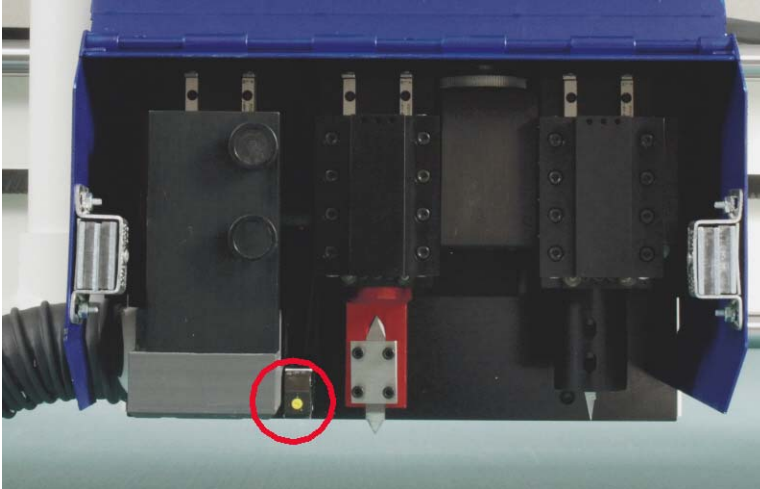

Figure 38
8. Locate the yellow adjustment screw on the sensor as shown in Figure 38 on page 72.